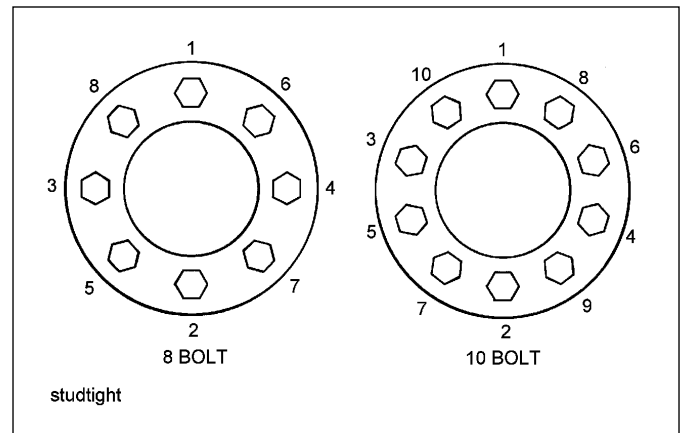

Figure 4-17: Stud Tightening Sequence
4. Install the flange nut and tighten to 50 foot-pounds using the sequence in **Figure 4-17.** Then tighten to full torque of 500 to 550 foot-pounds, using the same sequence.